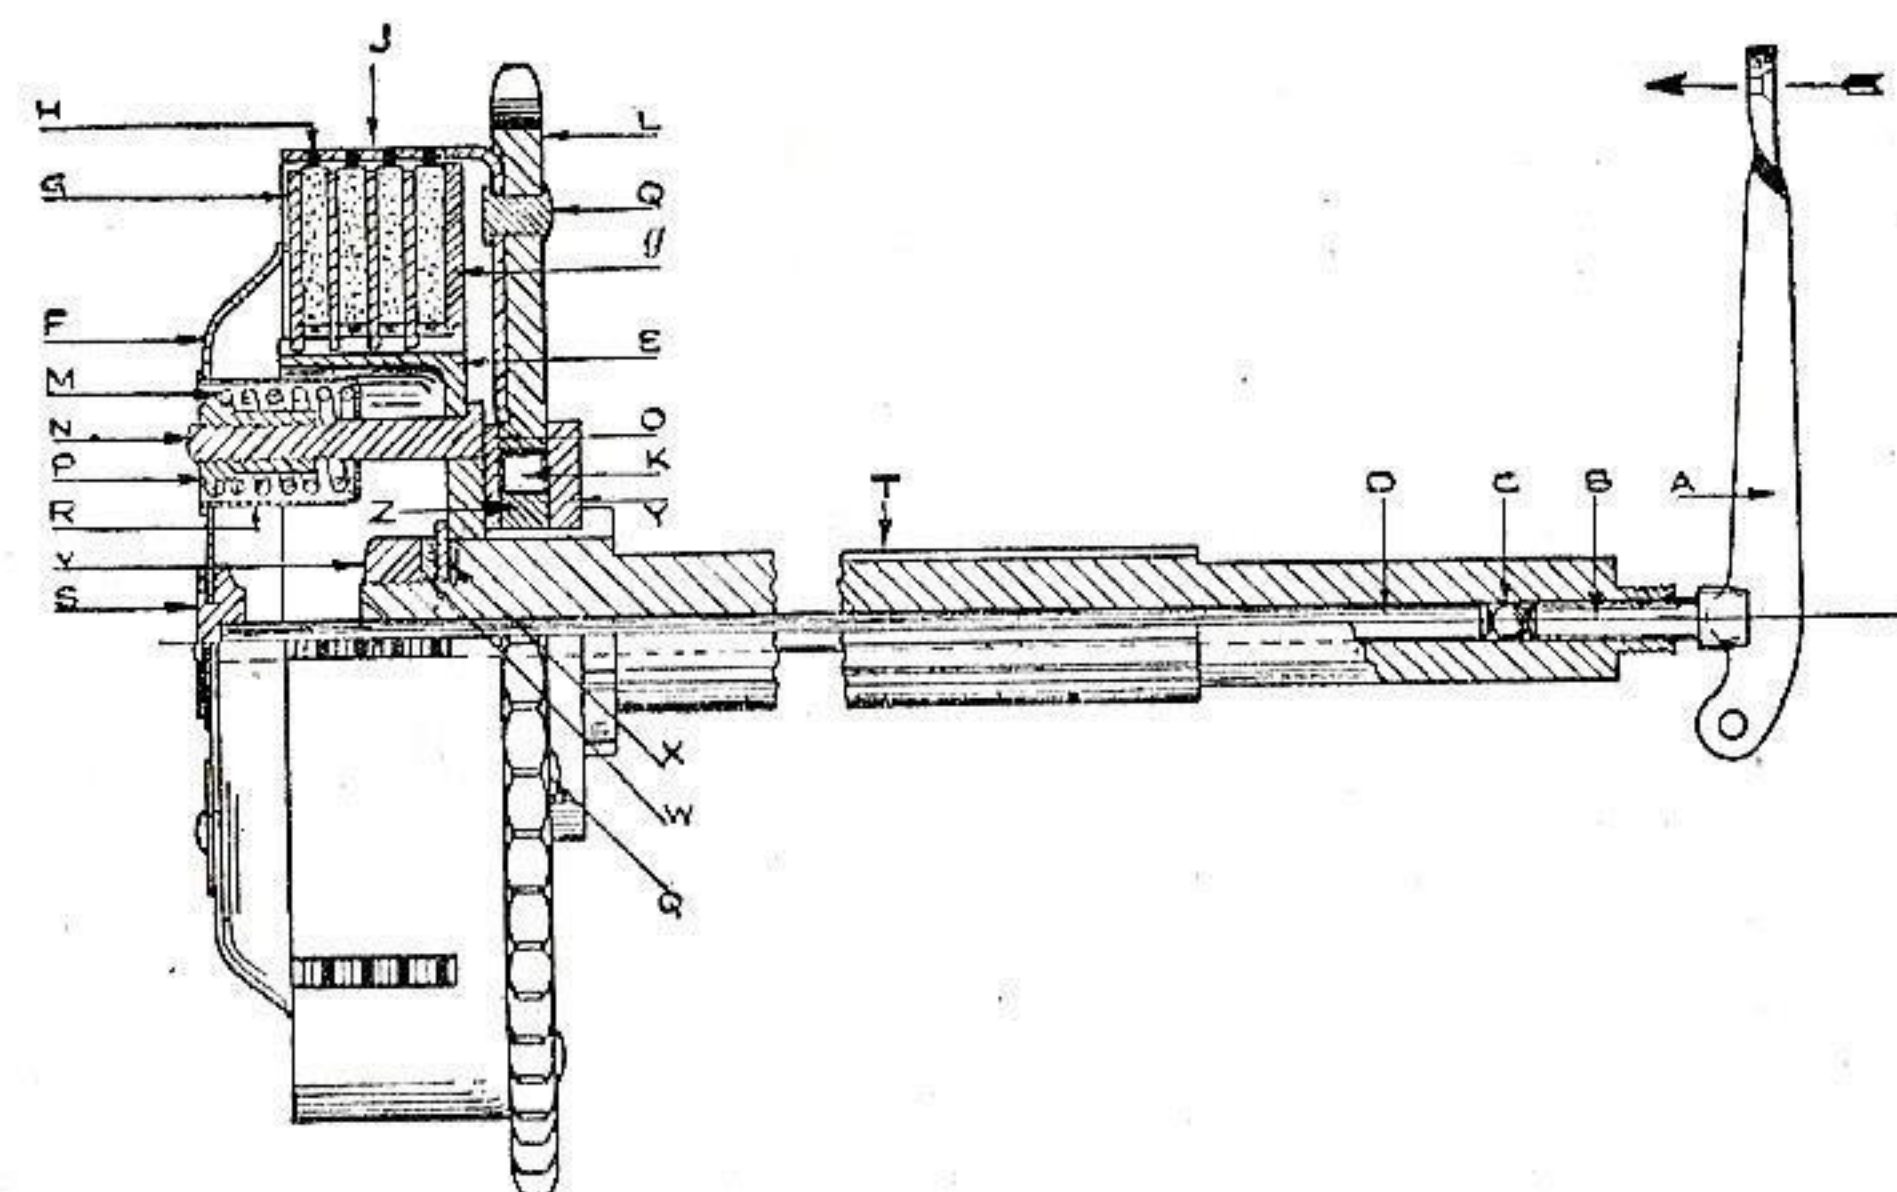
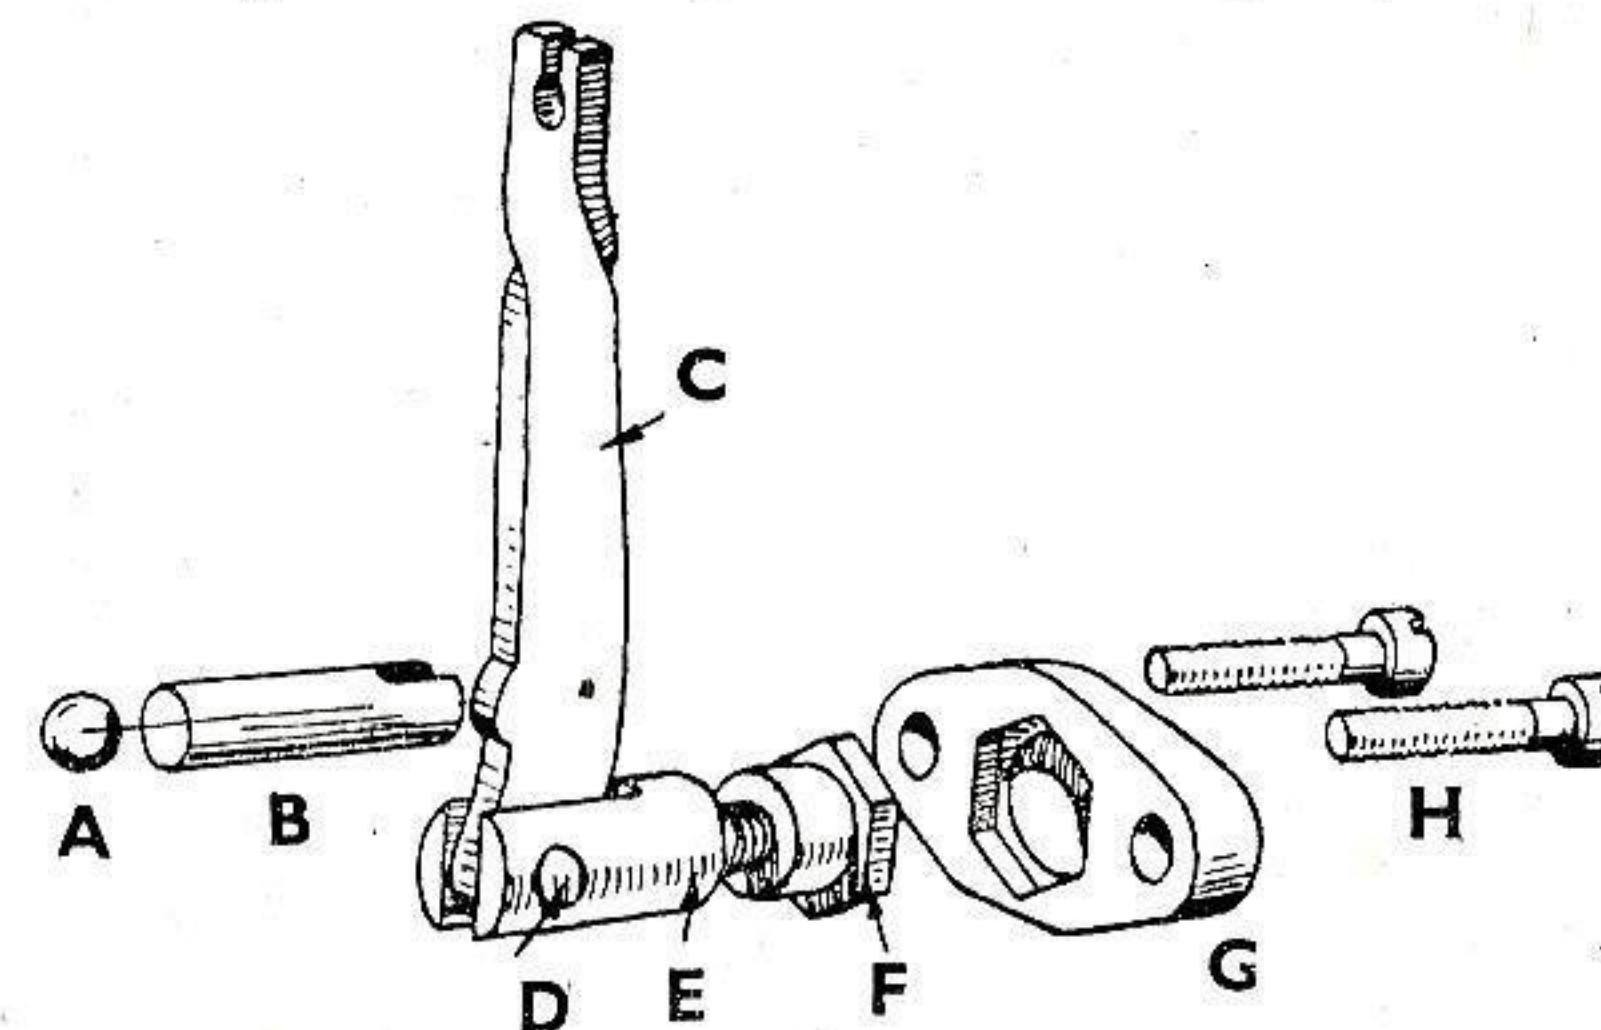

FIG. 70. DETAILS OF CLUTCH ASSEMBLY AND OPERATING MECHANISM
FIG. 71. FULCRUM ADJUSTMENT FOR CLUTCH-OPERATING LEVER
1. Clutch Adjustment. Fig. 70 shows a cut-away sectional view of the assembled clutch and operating mechanism which is completely enclosed in the gearbox casing, as may be seen in Fig. 34. It should be noted that on the 500 c.c. model the clutch has five friction insert plates, whereas on the 350 c.c. model there are
only four, as illustrated. Details of the clutch-operating lever and its fulcrum adjustment are clearly shown in Fig. 71.
From a glance at Fig. 70 it will be readily apparent that wear of the fabric inserts in the friction plates gradually causes the clutch plates to close up towards each other, with the result that the effective length of the clutch thrust rod (inside the hollow gearbox mainshaft) is increased. The clutch cable, however, tends to stretch with repeated use of the clutch lever and thereby to some extent neutralizes the effect of clutch insert wear. Clutch slip must be avoided at all costs, as it causes damage and overheating, and spoils performance. Sometimes it is due to incorrect adjustment of the clutch springs (see page 137), but generally it is due to insufficient free movement in the clutch operating mechanism. Referring to Fig. 71, there must always be about $\frac{1}{32}$ in. clearance (with the clutch plates engaged) between the thrust operating plunger (*B*) and the nose of the operating lever (*C*). Periodically inspect and, if necessary, rectify the adjustment. Two means of adjustment are provided, according to whether it is necessary to effect a minor or major adjustment. It is fairly easy to determine by feel the approximate amount of free movement in the clutch control by noting when resistance is met with as the handlebar lever is brought into use.
2. Effecting Minor Adjustment. When wear of the friction inserts is such that only a minor adjustment is called for, loosen the locking nut on the Bowden cable adjuster, which is screwed into the rear of the kick-starter housing (see Fig. 34). Then unscrew or screw up a few turns the cable adjuster, according to whether it is desired to decrease or increase the effective length of the control cable respectively. Decreasing the effective length of the cable does, of course, reduce the clearance (see Fig. 71) between the operating plunger (*B*) and the nose of the operating lever (*C*). After making the required adjustment, retighten the locking nut on the cable adjuster.
Referring to Fig. 71, to effect a major adjustment, first remove the two screws (*H*) with a suitable screwdriver, and detach the cap (*G*). Then proceed to adjust the sleeve nut (*F*) with an open-ended spanner until there is a clearance of about $\frac{1}{32}$ in. between the operating plunger (*B*) and the nose of the operating lever (*C*). To increase or decrease the clearance, turn the sleeve nut (*F*) clockwise or anti-clockwise respectively. Normally a sleeve nut
To make an adjustment, screw home *half a complete turn* each of the four adjustment nuts (shown at *P* in Fig. 70). Then make
To Remove and Replace Clutch Cable. Should complete removal of the clutch cable be necessary, first remove the oil filler cap from the cover of the kick-starter case. Next screw fully home the Bowden cable adjuster on the back of the case. Now disconnect the clutch cable from the operating lever (shown at *C* in Fig. 71). This can be done through the oil filler cap orifice. Then unscrew completely the clutch cable adjuster and disconnect the cable from the handlebar lever. The cable is now free to be removed from the machine. Pull it away from the lower end and carefully ease it from the various frame attachment clips.
dynamo-driving sprocket). This is facilitated by engaging top gear and applying the rear brake. Referring to Fig. 70, remove by unscrewing uniformly the four spring adjustment nuts (*P*) and withdraw the clutch spring pressure plate (*F*), complete with the four springs and spring cups (*R*). Now remove the spring link from the primary chain and take the chain off the sprockets.
With top gear still engaged, again apply the rear brake and, referring to Fig. 70, unscrew the nut (*V*) retaining the clutch centre (*E*) to the gearbox mainshaft (*T*). Remove the spring washer (*W*) and the plain washer (*X*) situated on the mainshaft behind the retaining nut. The entire clutch assembly may now be removed.
6. Replacing Clutch Centre and Clutch Sprocket. Referring to Fig. 70, fit the roller bearing retaining washer (*Y*) on the gearbox mainshaft. This is the thicker of the two retaining washers. Next replace the roller bearing ring (*Z*) on the mainshaft and with thick grease position the twenty-four rollers (*K*) on the bearing ring. Replace the clutch sprocket (*L*) over the rollers.
8. Fitting Clutch Plates and Springs. Referring to Fig. 70, slide into position in the clutch case (*J*) attached to the clutch sprocket (*L*) the thickest of the steel plain plates (*g*). Make certain that the recessed part of the steel plate faces *towards* the clutch centre (*E*) and overhangs its flange.